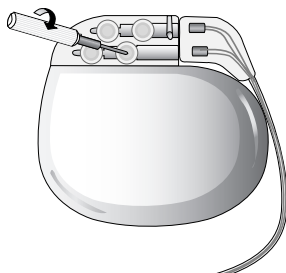

Figure 19. Fully seat connector to block and insert hex wrench to engage setscrew.
- b. Tighten the setscrew by turning the hex wrench clockwise until resistance is felt (Figure 19).